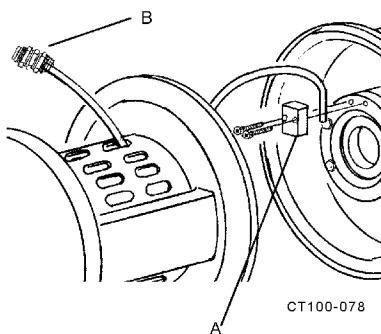

Figure 33 - Installing the Water Cascade System
10. If your system has a water cascade, thread the water cascade hose through the guard and install the cascade block on the backplate (See Figure 33, items A and B).